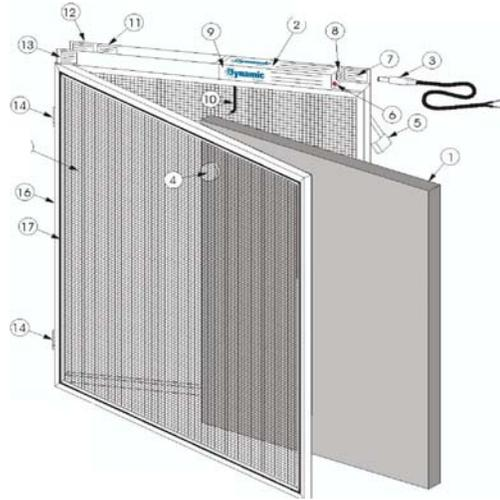

Figure 7
- 2) Replacement Media Pads can be ordered from your heating and air conditioning contractor or by ordering online at [www.DynamicAQS.com](http://www.DynamicAQS.com). Have the model number or unit size available when calling. Refer to the size label on the unit (item 12 in figure 7) for the unit size. Air cleaner media pads are sized according to the size of the overall air cleaner and NOT the size of the media pad itself.